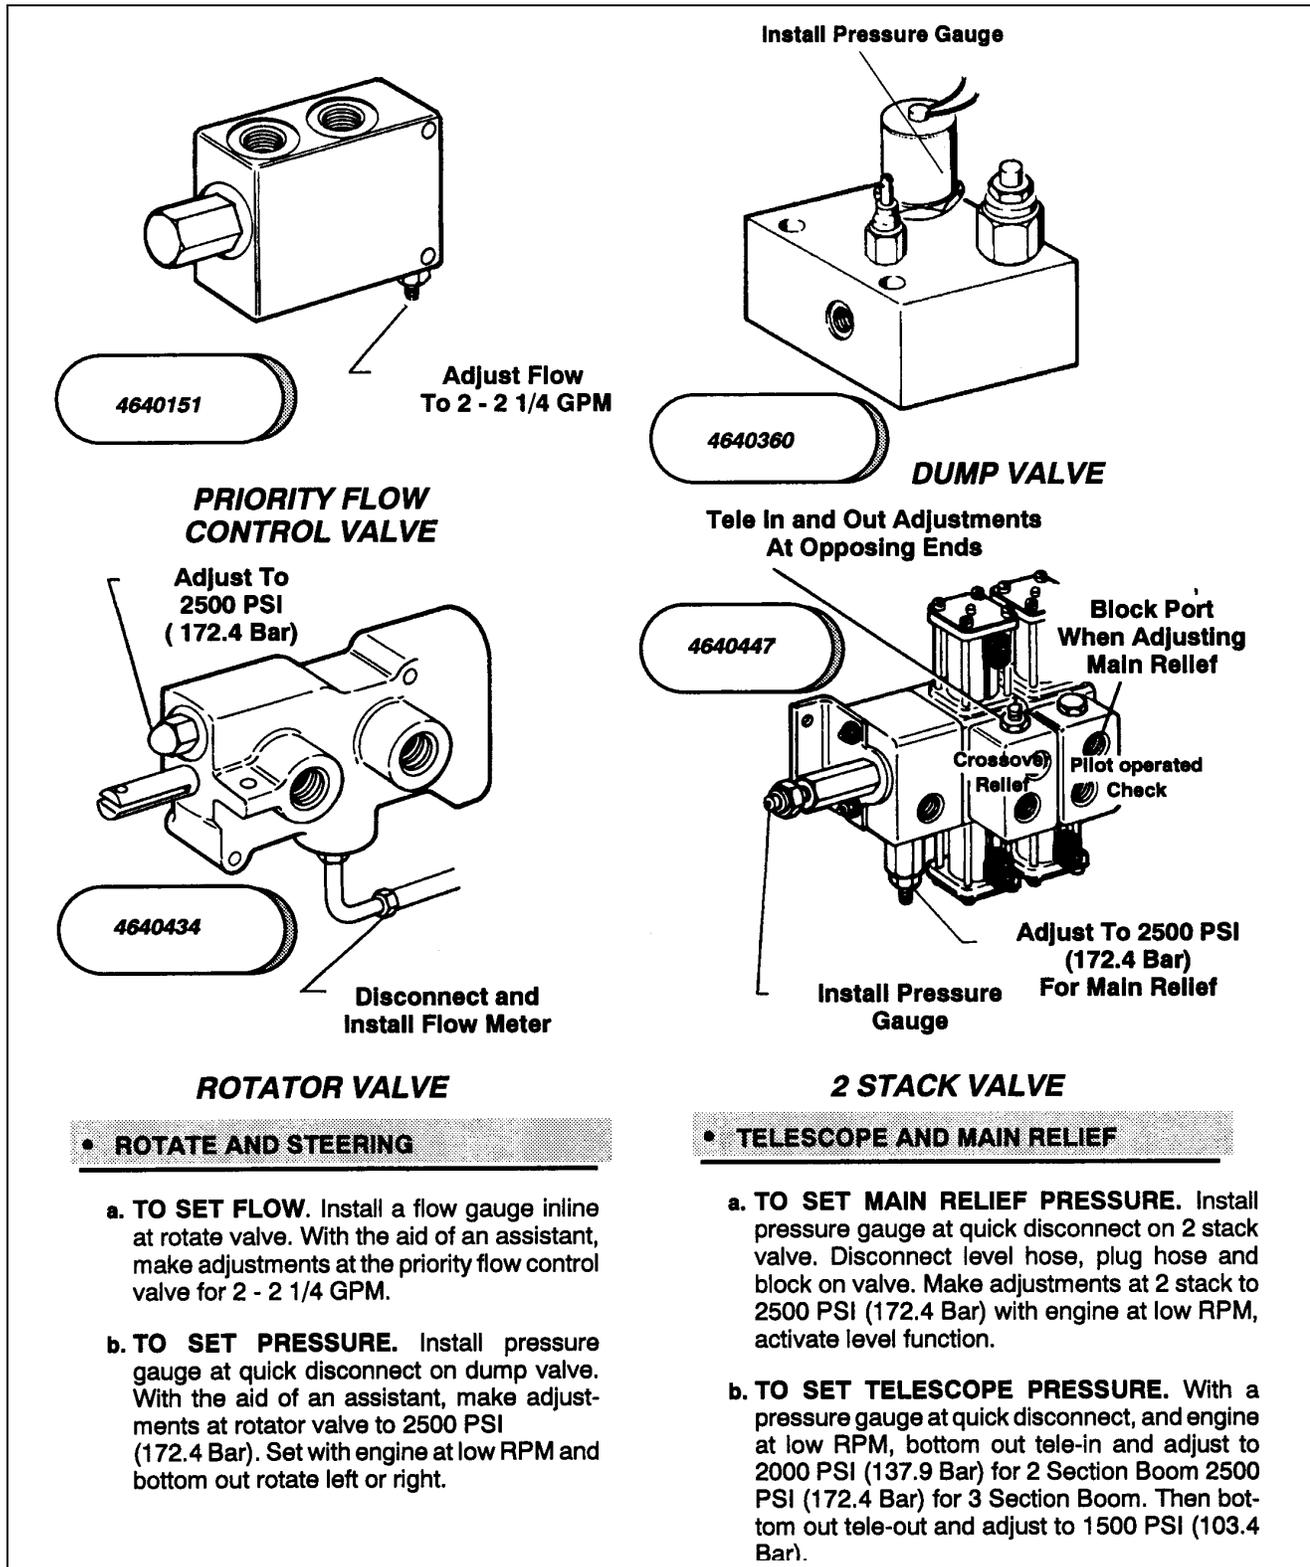

Figure 2-23. Pressure And Flow Settings (Machines Built Prior To May 1992 With Steering Wheel).
- e. Pressure And Flow Settings Machines Built Prior To May 1992 With Steering Wheel are shown in Figure 2-23.